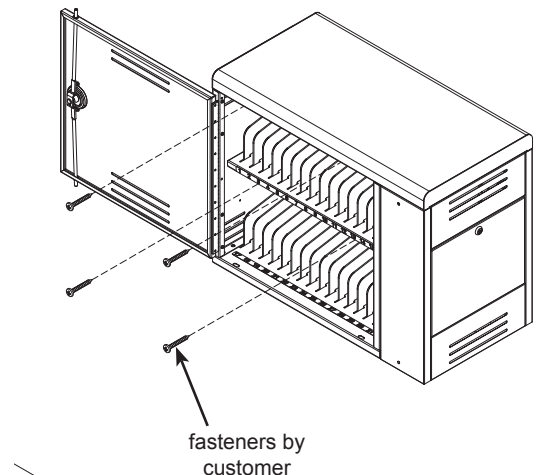

Figure 1C
5. Support the locker (this may take 2-3 people), align the mounting holes, install fasteners, and tighten to secure the locker to the wall. **Figure 1C.**